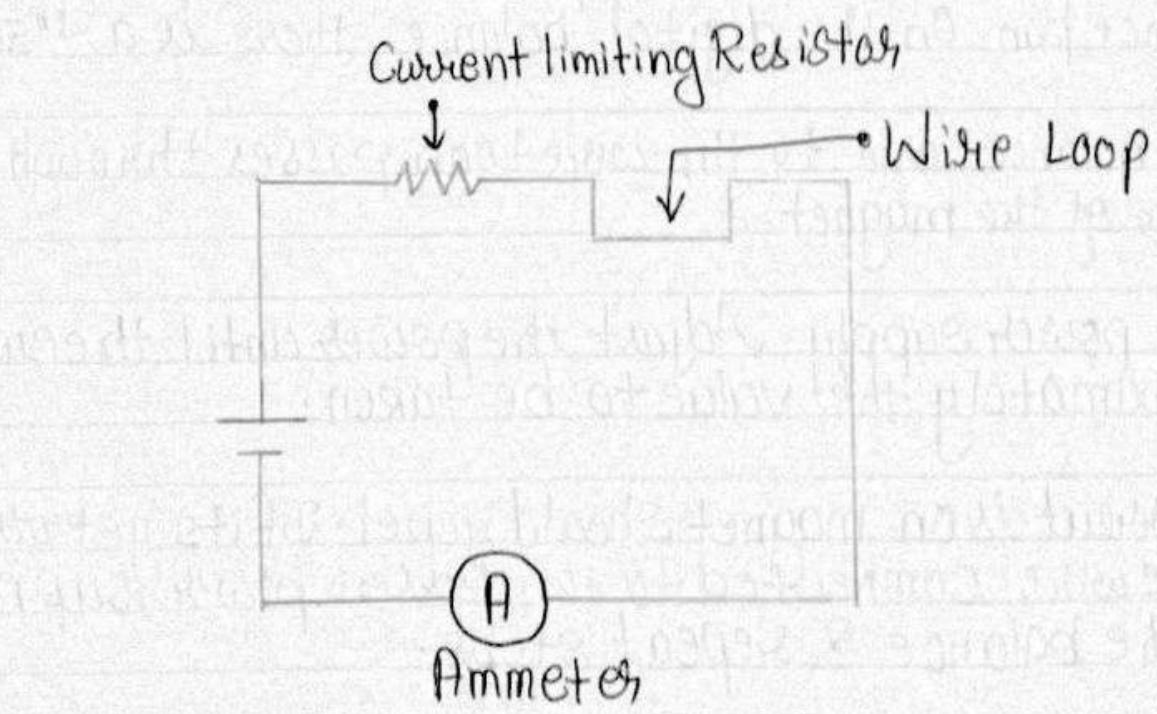

Fig2: Circuit for $F \text{ vs } I$
- ① Build the circuit as shown in figure 2 using current loop
- ② Locate the magnet far the wire loops & center the magnet on the balance pan. On the digital balance, there is a 'zero' button
- ③ Lower the balance arm to the wire loop passes through the pole region of the magnet.
- ④ Plug in the power supply. Adjust the power until the current is approximately the value to be taken.
- ⑤ If the current is on magnet should repel. If its get attracted reverse the wire connected to the Dc Dc power supply, turn off the balance & repeat steps.
- ⑥ Measure m & J.
- ⑦ Repeat until current increments from 0A to 2A
- ⑧ Collect the data & unplug the power supply.
- ⑨ Calculate force for each current value